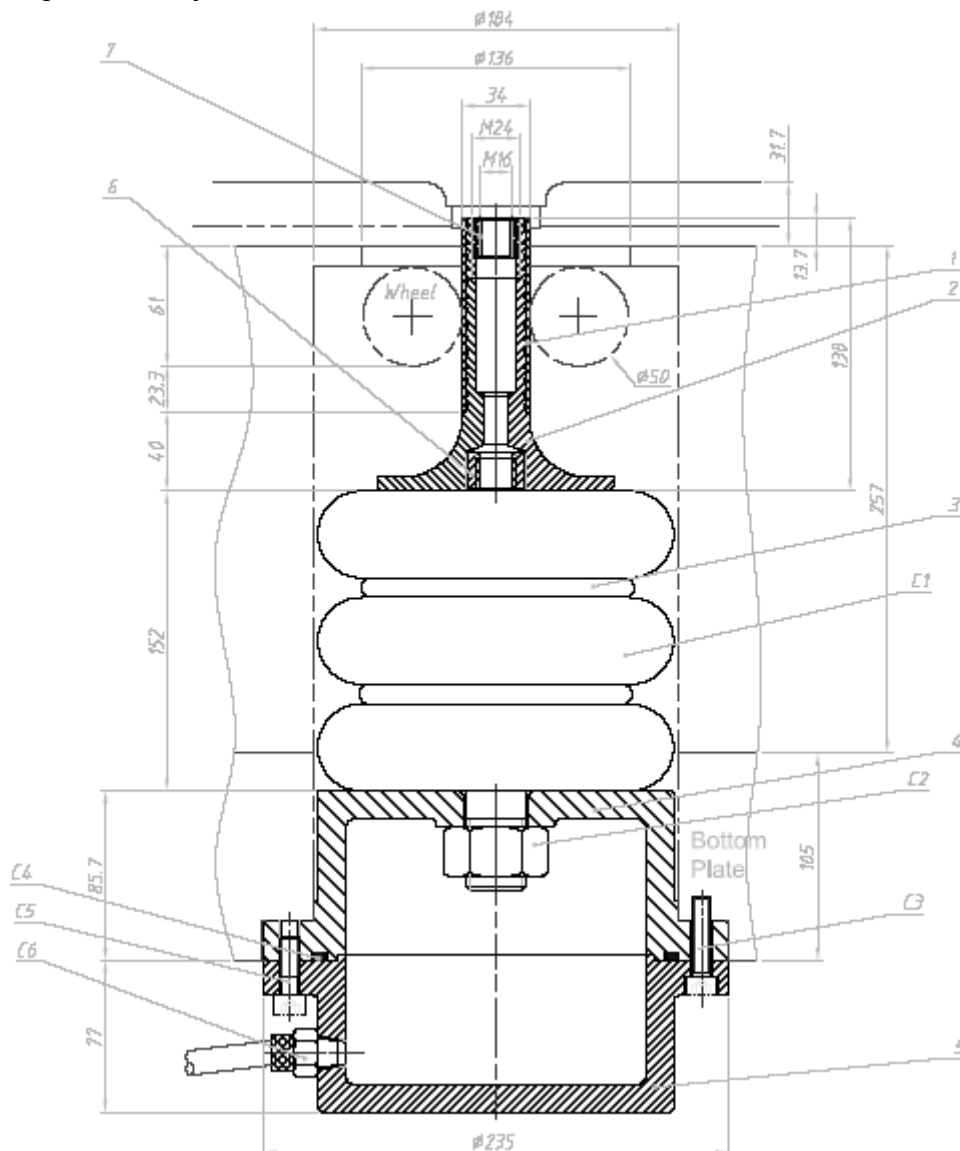

Figure 1
2. While reinstalling the load support system according to Figure 1, please connect the hose to the faucet (B) temporarily for inflating (Shown as Figure 1). Inflate some air in the airbag. Then push the whole support system into the shaker body. While pushing it in, elasticity should be felt. No elasticity feeling indicates less air in the air chamber. It needs pressurizing. Otherwise pushing the air chamber in difficultly indicates too much air. Please depressurize.